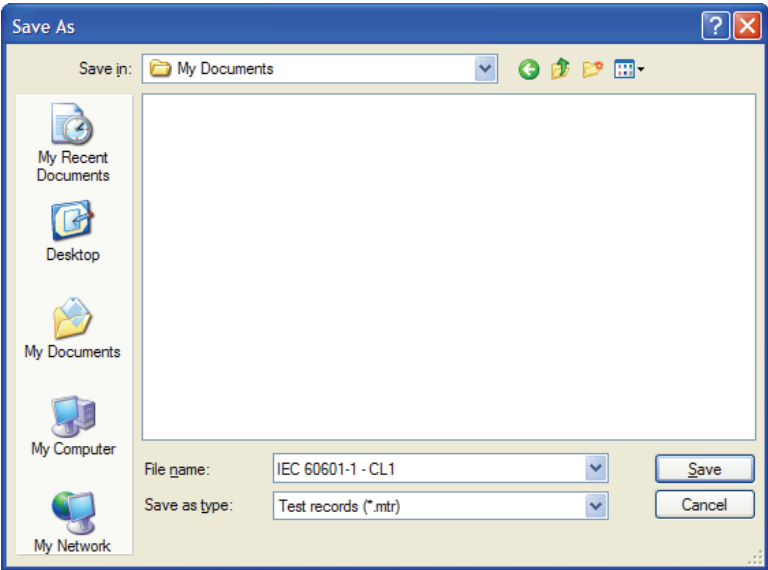

Figure 3-14. Save As Dialog Box
- Click **File Save** on the main menu or click the save toolbar button (). The Save As dialog box opens as shown in Figure 3-14.